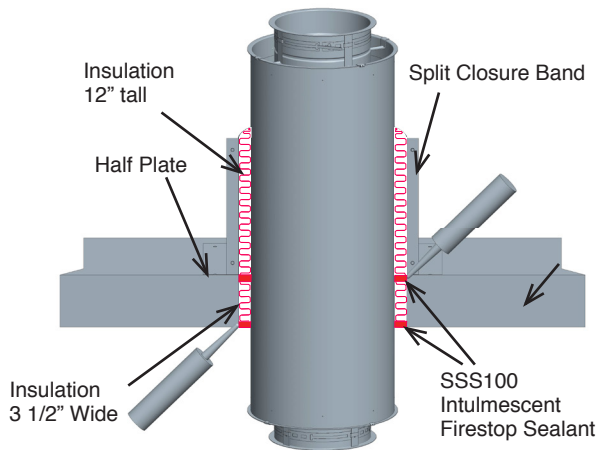

**Figure 110: Step 1-2-3-4-5-6 of TPFK**
6. Wrap a 12" wide strip of the fiber insulation around the grease duct. The insulation must butt up to the cover plate and outer wall of the duct. See Figure 110.